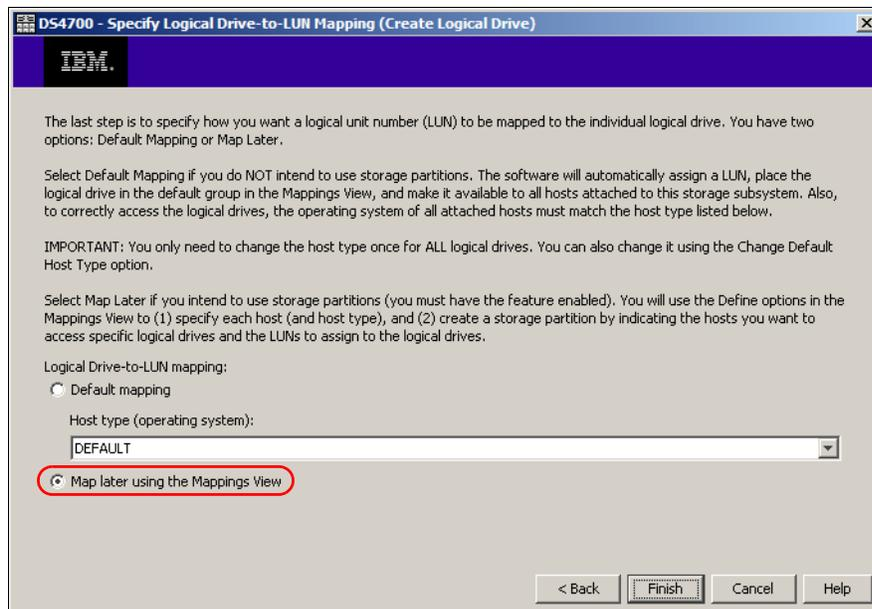

Figure 10-51 Specify Logical Drive-to-LUN Mapping
4. Click **Next** to proceed to the Specify Logical Drive-to-LUN Mapping dialog, as shown in Figure 10-51. Select **Map later using the Mapping View** and click **Finish** to complete the wizard.